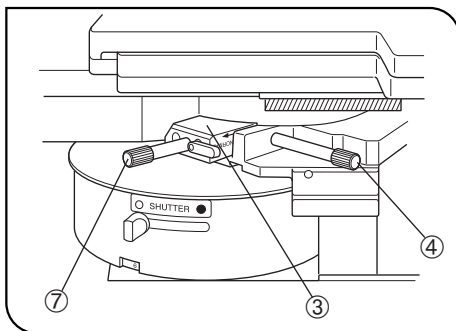

Fig. 61
6. Slide the prism movement knob ⑦ of the DIC slider in the clockwise direction around the axis until, the knob is stopped. A black interference stripe then a rainbow-colored interference stripe will be observed. Here, stop the knob at the position with which the black interference stripe can be seen. (Figs. 61 & 66)